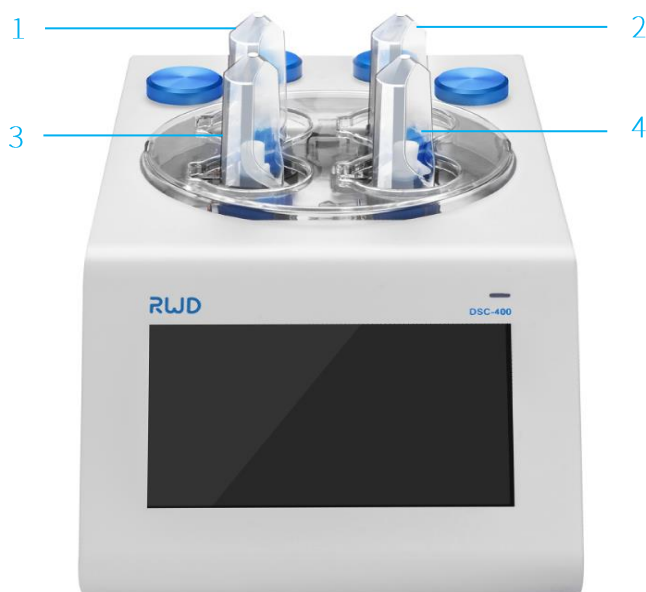

Figure 5-1
- 3) Turn the single cell tubes upside down and load into the device channel, as shown in Figure 5-1. The 4 channels are independent of each other and can process different samples at the same time.